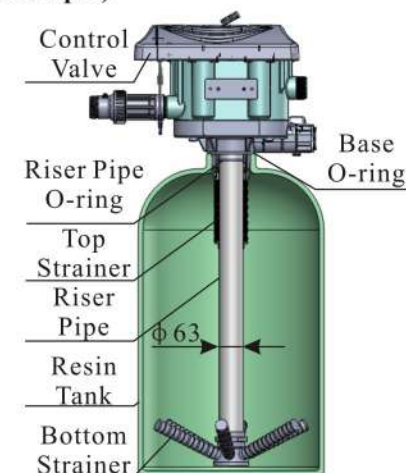

Figure 1-1
- ① The filter or softener should be located close to drain.
- ② Ensure the unit is installed in enough space for operating and maintenance.
- ③ Brine tank need to be close to softener.
- ④ The unit should be kept away the heater, and not be exposed outdoor. Sunshine or rain will cause the system damage.
- ⑤ Please avoid to install the system in one acid/alkaline, magnetic or strong vibration circumstance, because above factors will cause the system disorder.
- ⑥ Do not install the filter or softener, drain pipeline in circumstance which temperature may drop below 5℃, or above 45℃.
- ⑦ One place is recommended to install the system which cause the minimum loss in case of water leaking.
- ① Install control valve
- a. As the Figure 1-1 shows, select the riser pipe with 63mm OD, glue the riser pipe to the bottom strainer and put it into the mineral tank, cut off the exceeding tube out of tank top opening. Plug the riser tube in case of mineral entering.